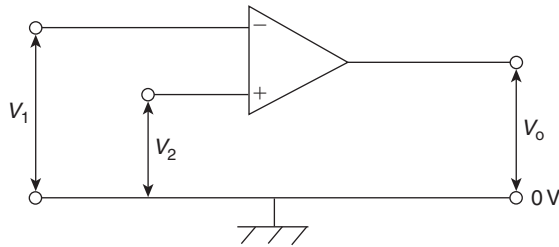

Figure 19.13
If both inputs of the op amp shown in Fig. 19.13 are used simultaneously, then from equation (1), page 296, the output voltage is given by: